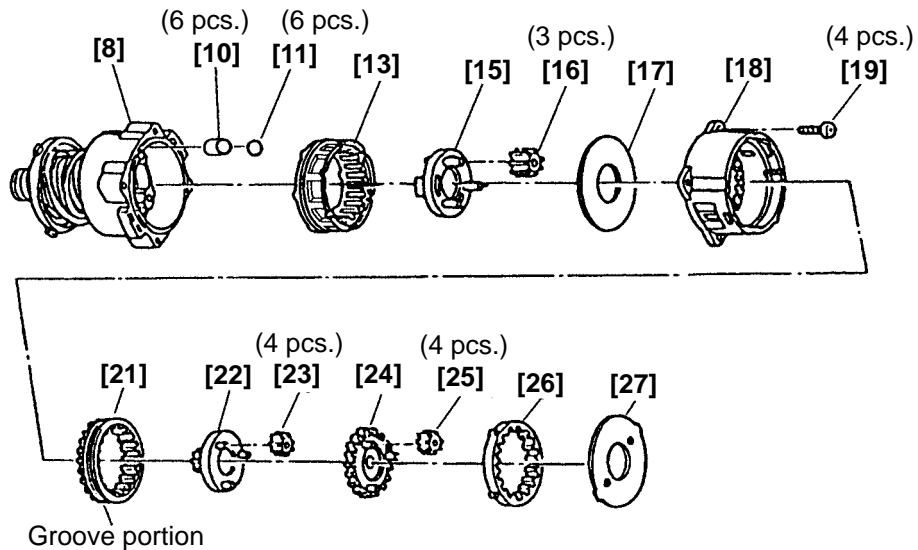

Fig. 6
(b) Mount the parts from the Roller **[10]** to Plate (A) **[27]** to the part assembled in the above (3) in order (see Fig. 6).
- ① Mount the Roller **[10]** first then mount the Steel Balls D5 **[11]**.
- ② Pay attention to the mounting direction of the Ring Gear **[13]**, Carrier **[15]**, Slide Ring Gear **[21]**, Pinion (C) **[22]** and Pinion (B) **[24]** (see Fig. 6).
- ① Mount the Shift Arm [20] to the protruded side of the Rear Case [18] facing its bent portion forward. At this time, insert the protrusion of the Shift Arm [20] into the hole of the Rear Case [18] and check that the protrusion is inserted into the groove of the Slide Ring Gear [21] that is mounted in the Rear Case [18] (see Fig. 6).
- ② Insert the Shift Arm [20] into the groove of the Shift Knob [39] facing "LOW" indication on the Shift Knob [39] backward.